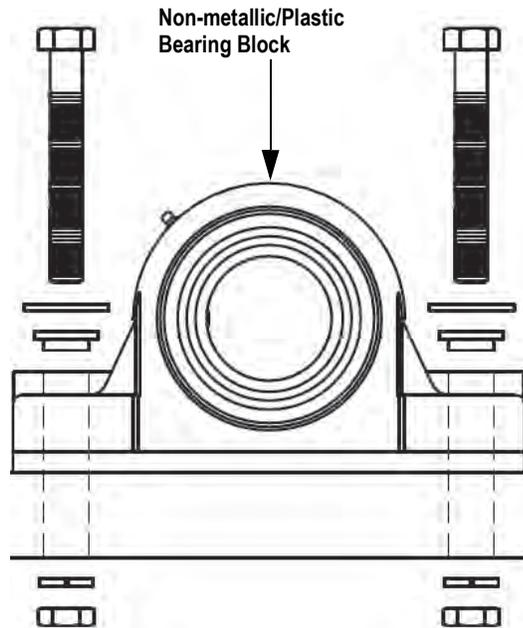

Figure 2-4. Plastic Bearing Block Method
Figure 2-4 shows the method recommended by Rice Lake Weighing Systems, it is also the simplest method. It requires the bearing block on the end opposite the motor to be replaced with a plastic/non-metallic one.
- If using the Plastic Bearing Block method (Figure 2-4 on page 8) the opposite bearing block is metallic and grounded already.